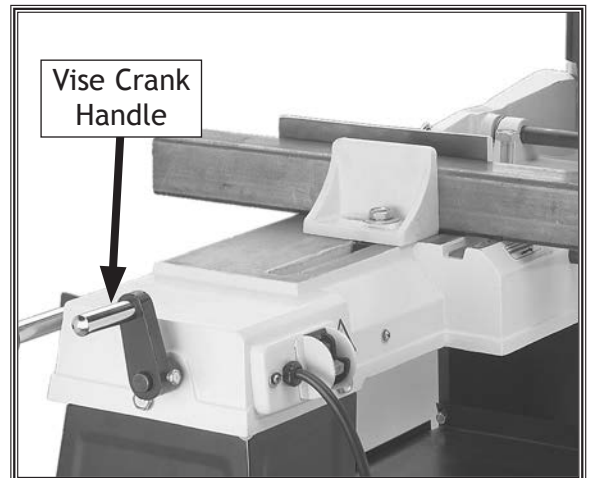

Figure 30. Vise crank handle.
4. Turn the vise crank handle (**Figure 30**) clockwise to firmly secure the workpiece in the vise jaws. The workpiece is now ready to cut.